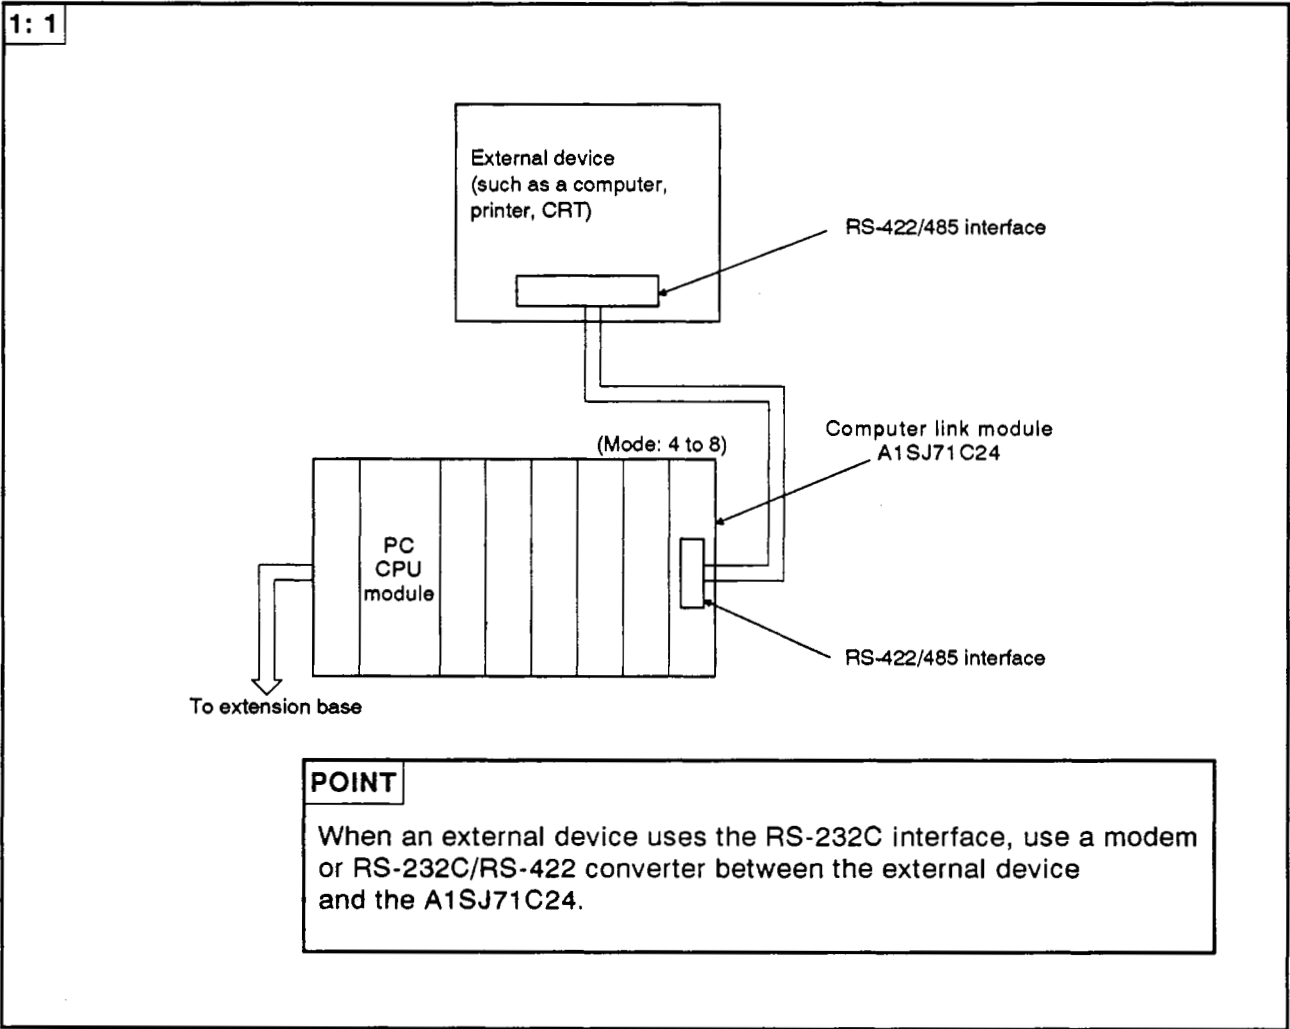

Fig. 2.2 System Configurations (I)
- (1) 1:1 ratio of an external device (computer) to a PC CPU
- (a) The system configuration for a 1:1 ratio of an external device (such as a computer) to a PC CPU is shown in Fig. 2.2 below.